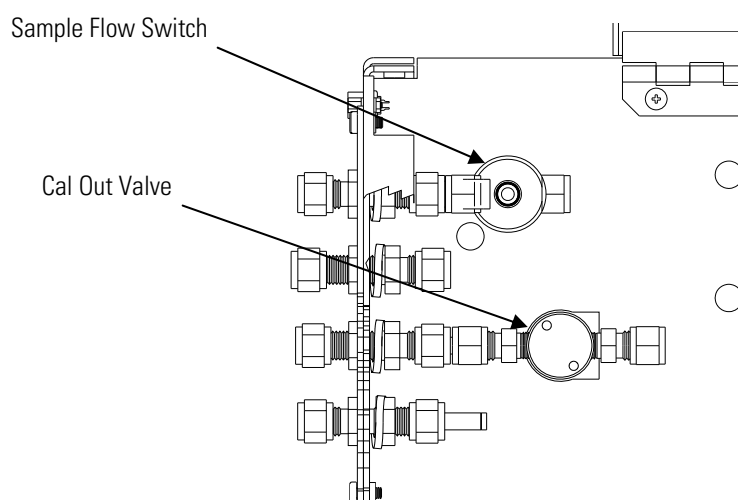

Figure 7–14. Replacing the Sample Flow Switch or the Cal Out Valve
Use the following procedure to replace the 2-way cal out solenoid valve (Figure 7–14).
2. Disconnect the cal out valve cable from the SAMPLE connector on the measurement interface board (Figure 7–14). Cut the cable ties as appropriate.
Use the following procedure to replace the optional electrochemical oxygen sensor (Figure 7–13).